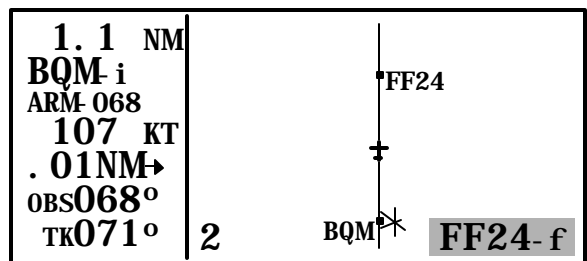

Figure 3D-69. Activate the FAF
- a. Pull out the right inner knob with the Super NAV 5 page displayed. Scan the waypoints until the FAF, FFxx-f, is displayed in the window and press the **→** button. Refer to Figure 3D-69. Since the course to the FAF is already defined (in the OBS mode with the EHSI set to the outbound course), press the **→** button a second time to activate this waypoint instead of going directly to it.